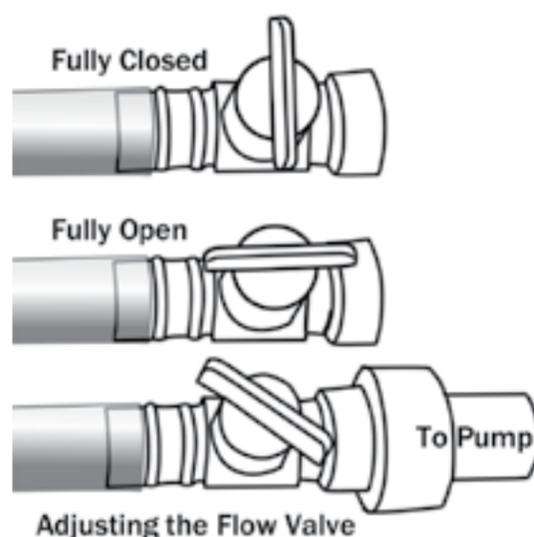

FIG. 8.1
1. After mounting your fountain to the wall, fill the reservoir (L) with water (distilled water is strongly recommended).
3. Before turning on your fountain for the first time make certain the flow adjuster is fully open, having the flow valve in a closed position puts excessive pressure on the pump and may cause it to overheat and break. The flow valve lets you increase or decrease the amount of water flowing over the waterfall (Fig 8.1). You will need to adjust the flow valve to the proper rate for solid water coverage but not so fast that it causes splashing. Turn the flow valve down if the pressure is too strong and splashing occurs.
5. Install the Rock Tray (N) resting it on the tabs in the reservoir. The rock tray should be (N) to the front so there is a gap between the rock tray (N) and the stone allowing the water to flow without being touched by the tray. Spread the Polished Rocks (I) equally throughout the tray.